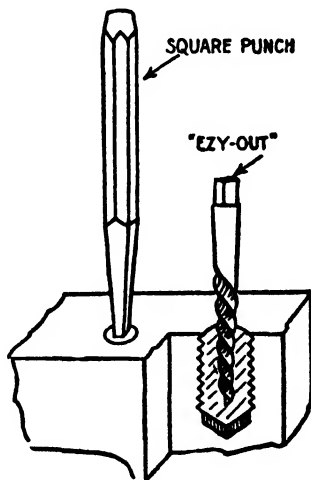

FIG. 55
4. Choose an "Ezy Out" with a twist in the opposite direction to the direction of the threads and one whose diameter is slightly smaller than the hole and start it into the hole. Put a wrench or handle on the "Ezy Out" and with slow steady pressure turn in the direction that will unscrew the stud. Fig. 55.